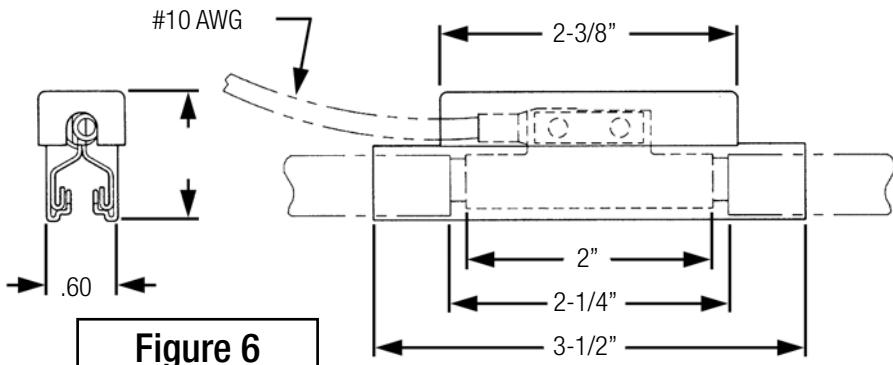

Figure 6
2.4.2 Joint Powerfeed (See Figures 6 & 7)